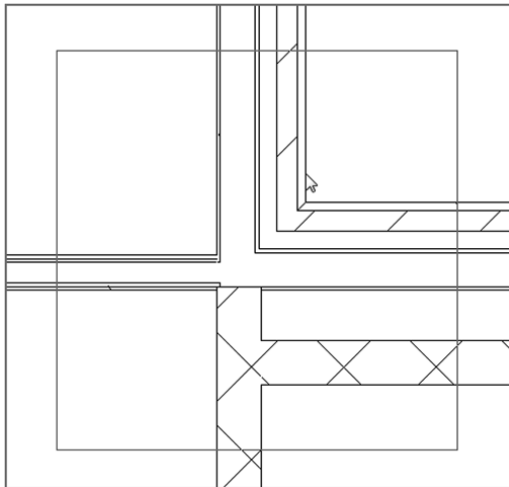

FIGURE 2.53: Choosing the intersection you want to edit
8. Hover your pointer over the intersection. Revit displays a big box, as shown in Figure 2.53.